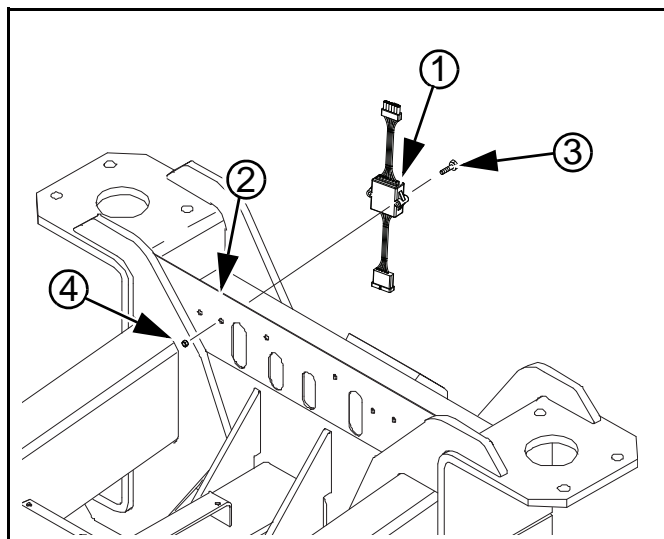

Figure 7
5. Fasten the enhance lighting module (1) to mainframe. Use the two far right-hand holes in the top rear flange (2) as shown in Figure 7. Use two 1/4-20x1 1/2 HHCS (3) and two 1/4-20 flange head lock nuts (4).